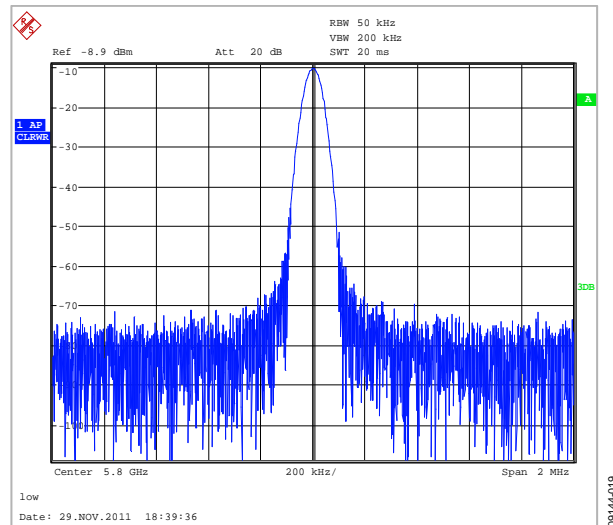
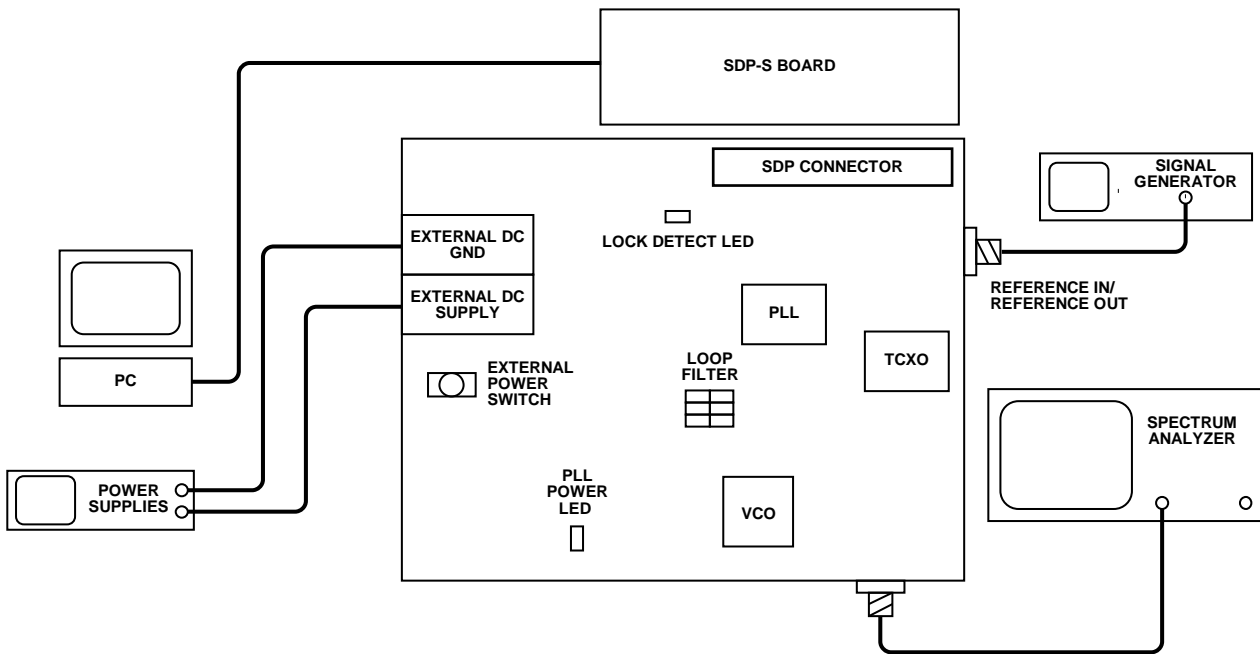

Figure 19. Spectrum Analyzer Display
Figure 20. Typical Evaluation Setup
6. In the software window, set the VCO center frequency (Figure 19 uses a 5800 MHz VCO). Set the PFD frequency to 1000 kHz, and program the reference frequency to equal that supplied to Connector J11 (or the TCXO). See Figure 20 for the suggested setup.
7. Measure the output spectrum. Figure 19 shows a 5800 MHz output.